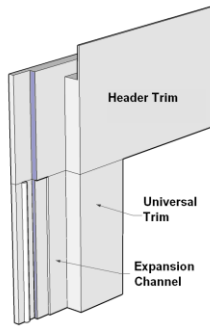

Fig. 8
**Header Trim** is suggested for use at the top of windows/doors (see Fig 8).
**Top of windows/doors** must be trimmed with Header Trim (see below). Cut out an expansion channel to match the Universal Trim profile used on the side casings (see Fig. 8). The Header Trim holds the lower edge of the clapboard and allows the clapboard to expand and contract without restriction.